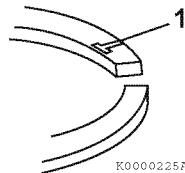

Figure 6-87
*Note:* Reinstall the top and second piston rings with the stamped “makers mark” (Figure 6-87, (1)) facing the top of the piston. The “makers mark” may vary in appearance but will always be located on the top surface of the piston ring adjacent to the piston ring gap. The oil ring and oil ring expander can be installed either side up.